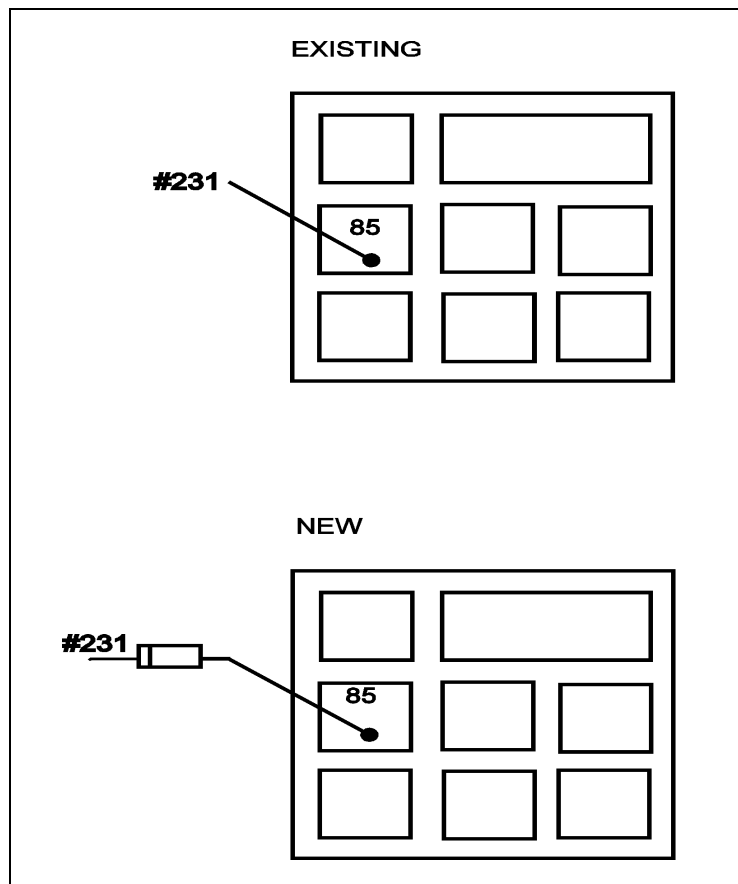

FIGURE 3: VUE FROM UNDERNEATH OF RELAY CONNECTOR R7
3. Extract wire #231 from R7 relay connector (Fig. 3).
4. Cut terminal of wire #231 and solder diode (Prévost #560931) in series (Fig. 3).
Warning: *Make sure diode is installed properly, see figure 3.*
6. Connect new terminal in port 85 of R7 relay connector (fig. 3).